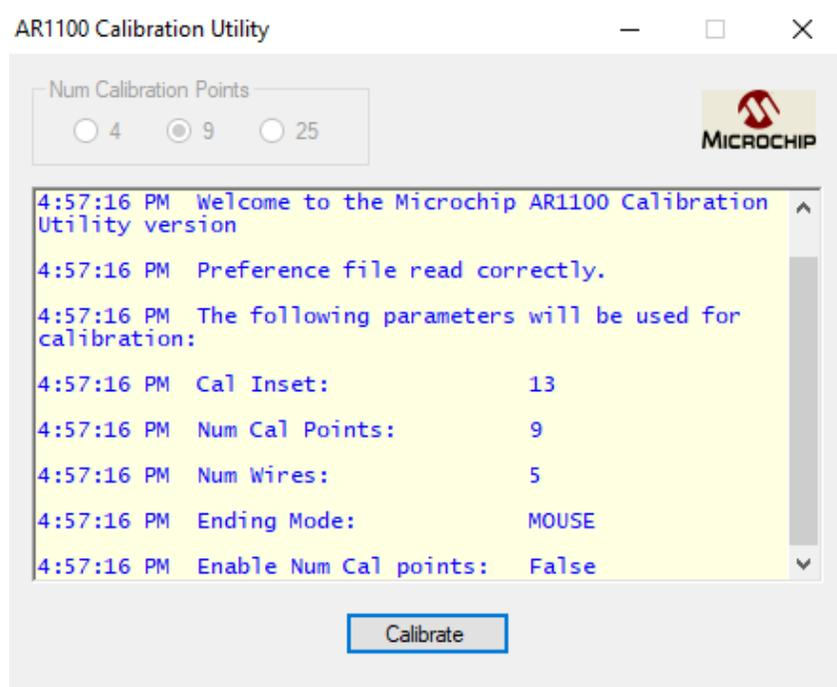

Figure 15: First windows when Calibration Utility runs
- You should see an initial Window as shown in Figure 15. This also confirms that .NET is working properly.